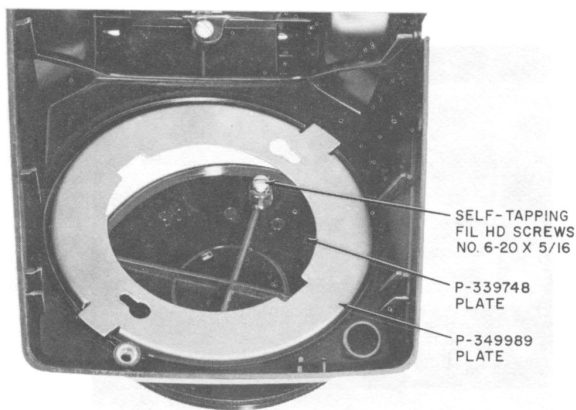

Fig. 8—500-Type Telephone Set With 95A (MD) Apparatus Blank
- (1) 95A (MD)—Used only on sets with three-point dial mountings (Fig. 8).